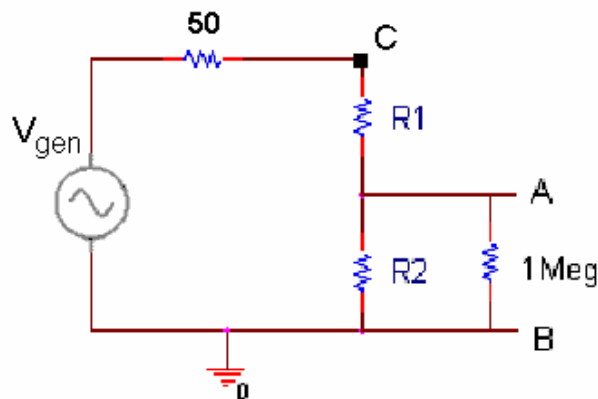

Figure B-7
- Set the function generator so that it produces an output signal with an amplitude of 100mV and a frequency of 1K Hz. Make sure it is correct by verifying it on the scope. Now we can apply this signal to our voltage divider. Take your two 1K ohm resistors and connect the voltage divider to the function generator at the tee. Use a minigrabber to connect the resistor closest to ground to the scope on channel 2. The black lead should be connected to ground and the red lead to the voltage you are reading. Your circuit now looks like figure B-7.